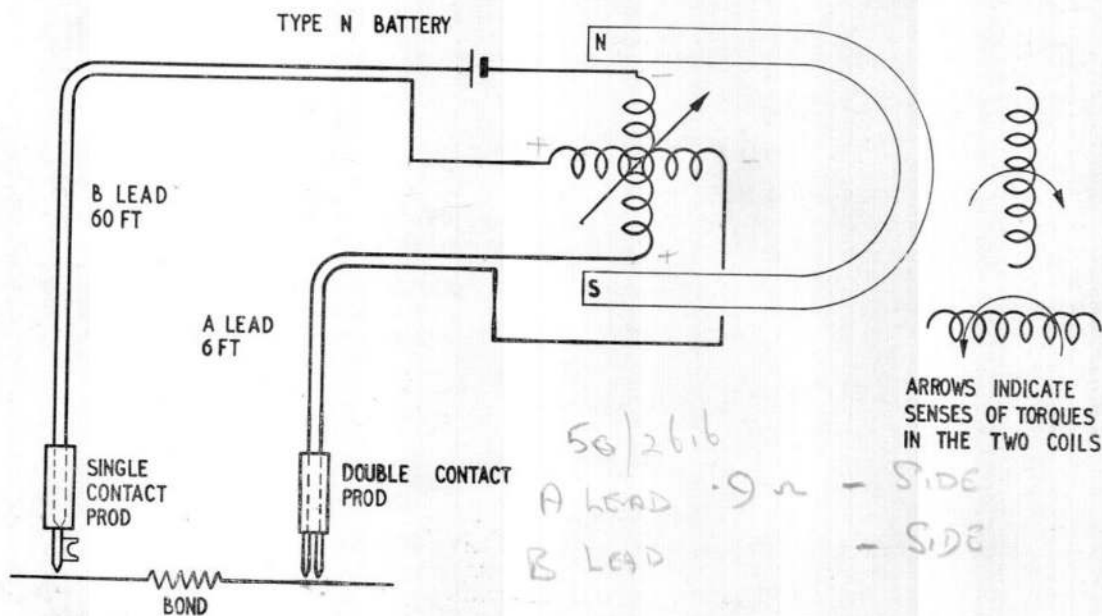

Fig. 2. Diagram showing electrical circuit
3. By using the current of the coil to provide the controlling torque, instead of the usual spring control as for a voltmeter, the effect of variations of the battery voltage is eliminated, for since the currents in the coils are both directly proportional to this voltage, their ratio will be independent of it. A diagram showing the electrical circuit is given in fig. 2.